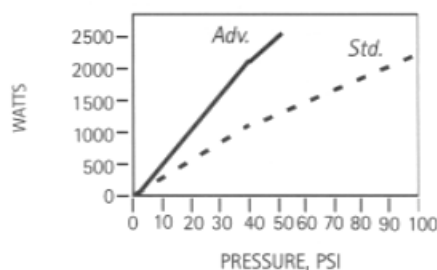

Figure 4. Power Output vs. Pressure
- **Force Requirement** - Because of constant amplitude, *significantly* less force, or conversely, less stack amplitude, is required to accomplish a weld using these power supplies. (Figure 4.)